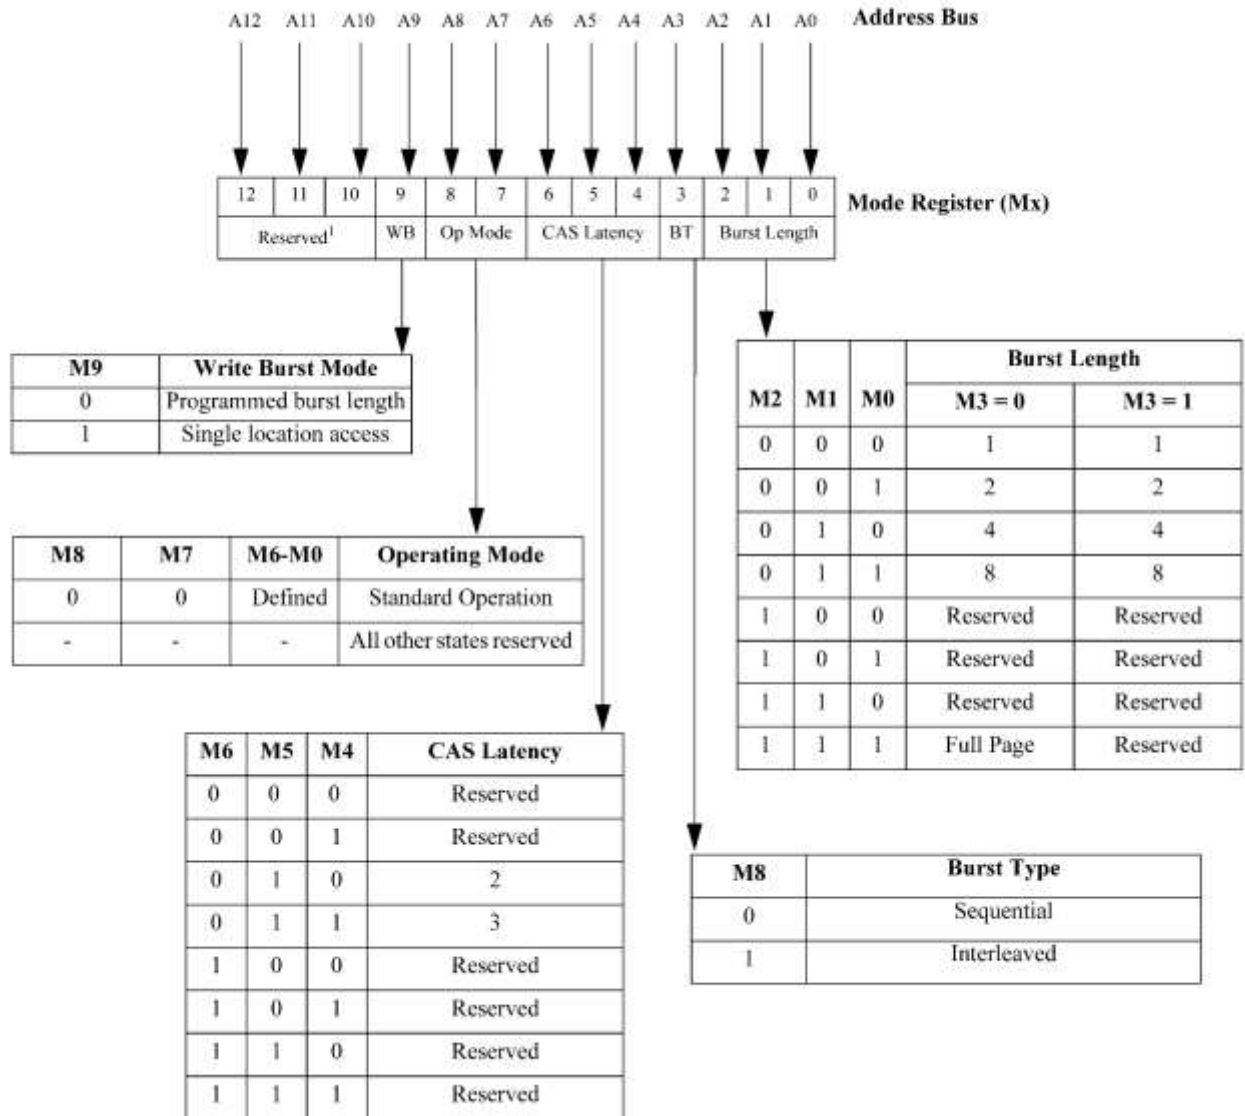

Figure 4: Mode Register Definition
The mode register is used to set a specific mode of operation for the SDRAM. These definitions include Burst length (BL), the CAS latency (CL), and the write burst mode as shown in Figure 4. The mode register is programmed using the LOAD MODE REGISTER command and retains the stored setting information until either reprogrammed or device power is lost. Mode register bits M0-M2 specifies the BL, M3 specifies the type of burst (sequential or interleaved), M4-M6 specify the CL, M7 and M8 specifies the operation mode, M9 specifies the write burst mode, M10 and M11 are reserved. Address M12 is undefined, but should be driven low during mode register programming. All references to bit(s) Mx in this document affect the mode register.